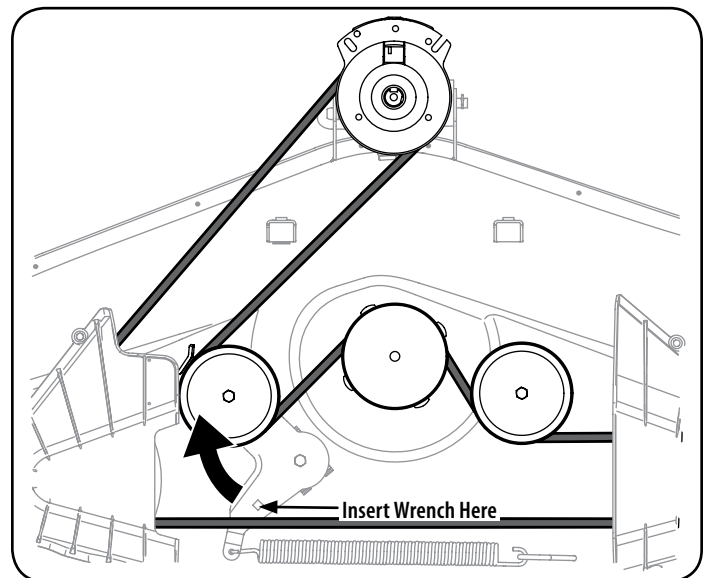

Figure 29
- c. Working on the right side of the tractor, insert a $\frac{3}{8}$ " drive ratchet wrench, set to tighten, into square hole found on the idler bracket. See Figure 29.
2. Use the wrench to pivot the deck drive pulley forward. See Figure 29.